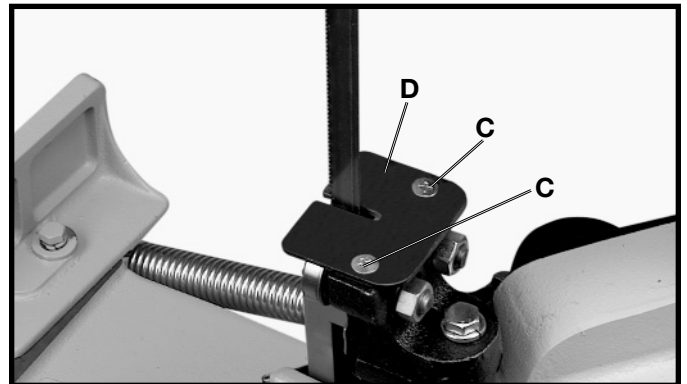

Fig. 33
2. Remove two screws (C) and bearing cover plate (D) Fig. 33.